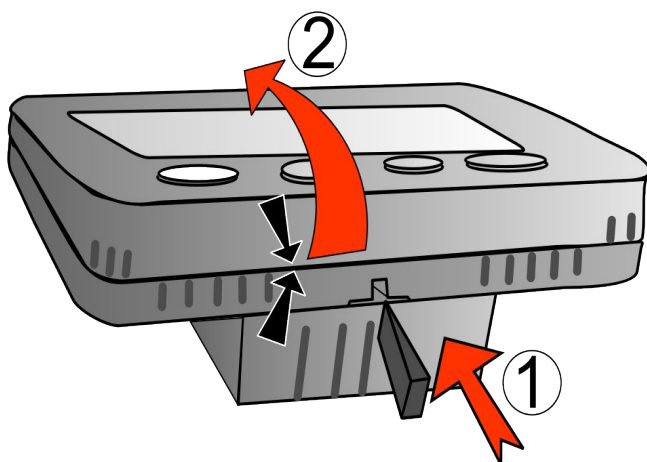

Figure 2
- Gently press the tip of a flathead screwdriver into the slot marked (1), in the indicated direction, on the underside of the front panel, Figure 2.
- At the same time, lift the upper part of the panel in the direction marked (2).